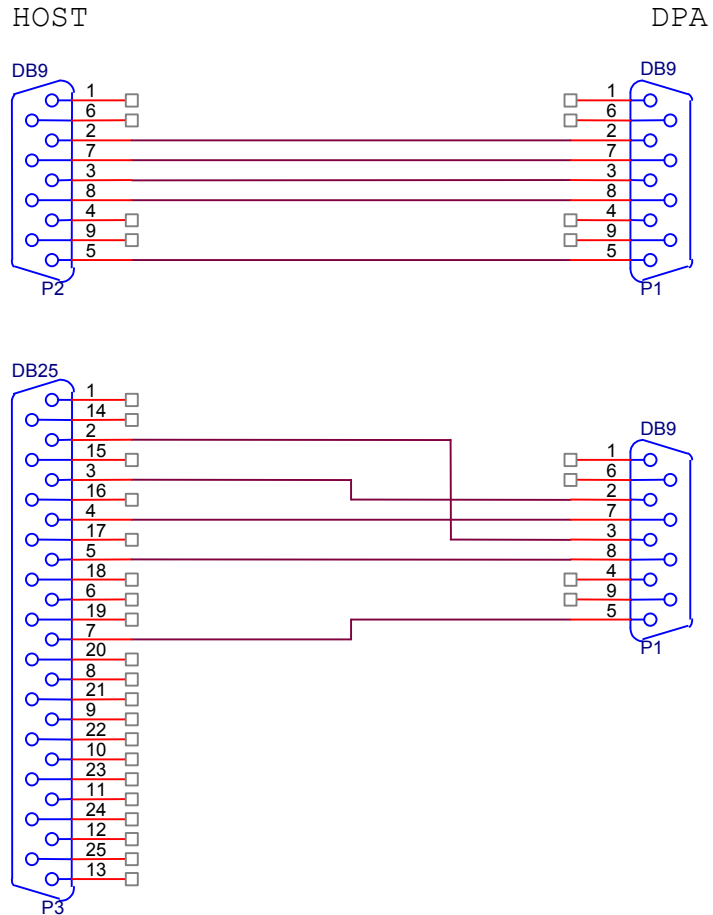

Figure 1 - DPA III /i to Host Wiring
1. Confirm that the correct electrical connection is established between the Host and the DPA III /i (*see Figures 1 and 2*).
- Use wiring illustrations shown in Figure 1 and 2.